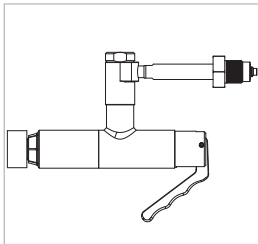

Figure 2
- ▶ Release the hand lever (Pos. 2). The connector tightens itself to the test piece and creates a pressure-tight connection. (Figure 2).